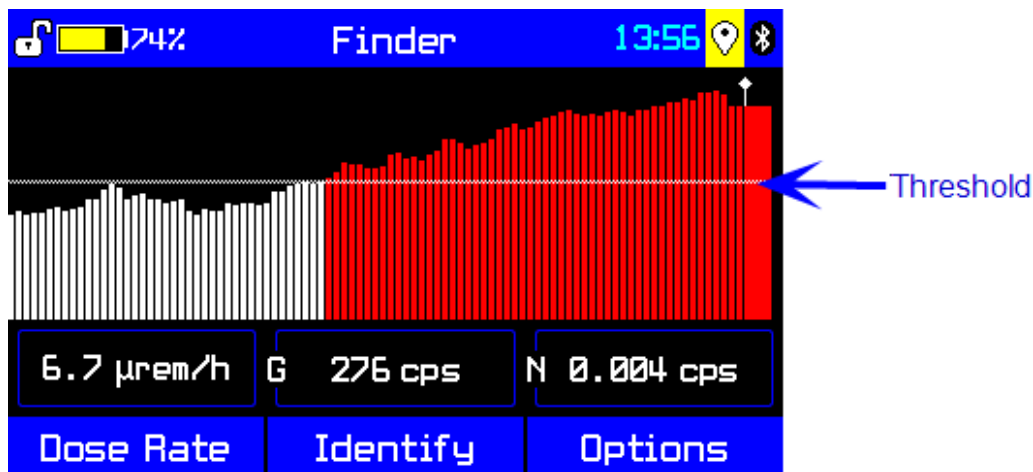

Figure 6-16: Finder mode display indicating radiation above threshold
<p>Refresh Rate</p>	<p>Specify a Refresh Rate value from 100 to 5000 milliseconds (0.1 to 5.0 seconds). The Refresh Rate value is the time interval represented by one column in the history chart of the Finder mode (see Figure 6-16).</p> <p>The identiFINDER R425 averages the count rate for the Refresh Rate value specified. At the end of each period, a column is added to the Finder mode graph (see p. 59) representing the result.</p> <div style="display: flex; align-items: center; margin-top: 10px;">  <p>A small Refresh Rate value will lead to a more active Finder mode display. A large value increases the possibility of finding weaker radiation sources.</p> </div>
<p>Sensitivity</p>	<p>This setting determines the sensitivity level for audible feedback in Finder mode.</p> <p>While in Finder mode, the R425 emits sound when the count rate rises above a threshold which is represented by the dashed line across the top of the Finder display (Figure 6-16). The Sensitivity value specifies how many standard deviations (SD) above the background radiation level the threshold is set to (for more on background measurement, see p. 57).</p> <p>A lower standard deviation indicates greater sensitivity; a higher standard deviation indicates lower sensitivity.</p>